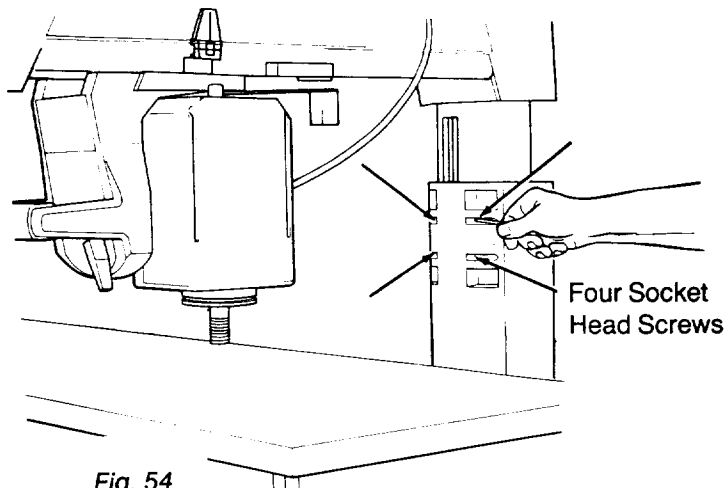

Fig. 54
11. Use a 3/16" hex “L” wrench to loosen the four screws in the front of the *column support* slightly, if you have not already done so in the Adjusting Elevation section. (Figure 54)